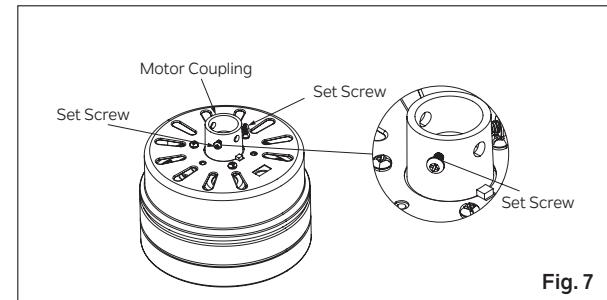

Fig. 7
Step 3. Loosen the two set screws (do not remove) on the motor coupling. **(Fig. 7)**